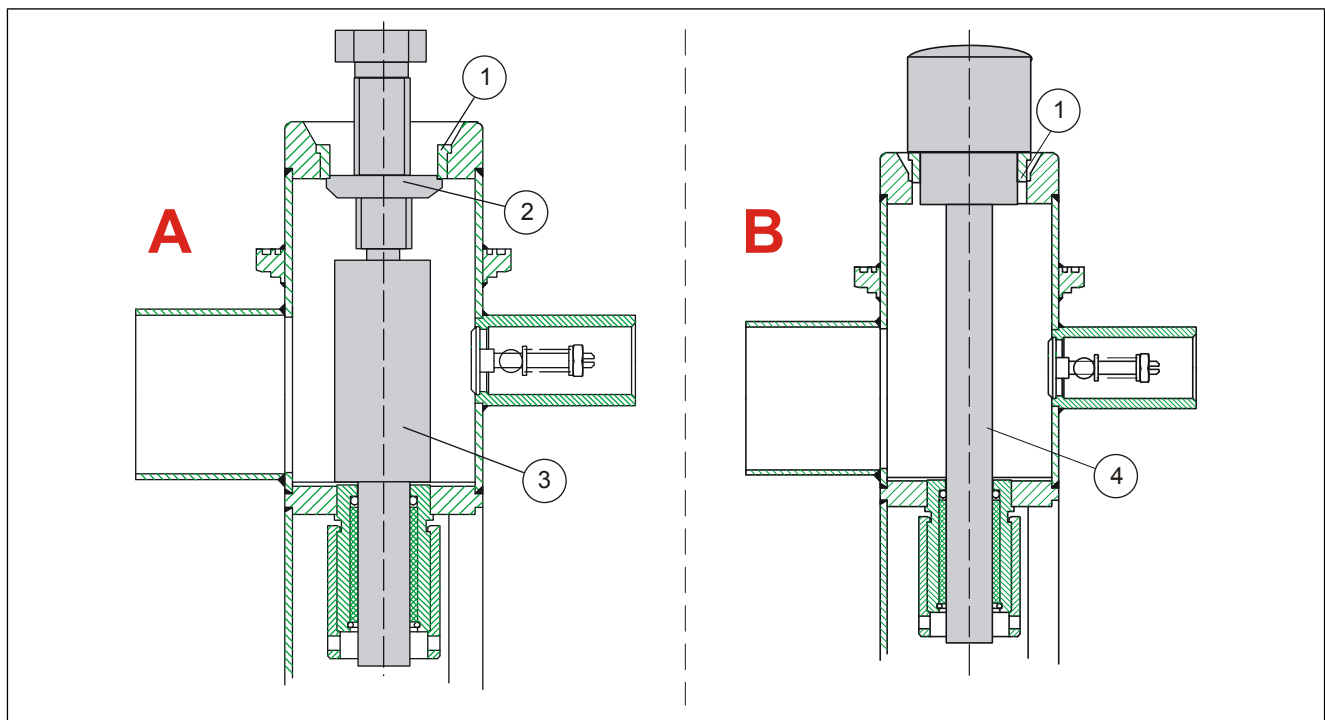

Fig. 22. Removing (A) and installing (B) the seat ring: 1 - seat ring, 2 - extracting tool, 3 - support tool, 4 - installation tool.
1. Mount the sampler e.g. on a vise, in the position shown in Fig. 22 A.
2. Push the support tool (included in the special tool set) into position, as shown in Fig. 22 A.
3. Mount the sampler on a vise, in the position shown in Fig. 22 B.